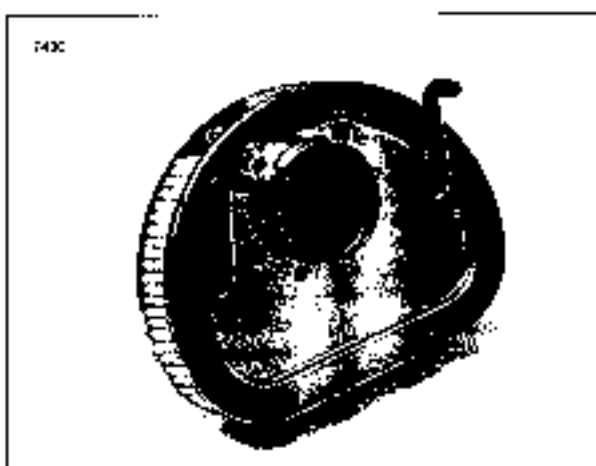

Figure 1-54. Breather Hose Holes on Backside of Filter
2. See Figure 1-54. Insert two breather tubes into the holes in back of the filter element and place the element back into position. Attach breather tubes to breather screws on backplate.